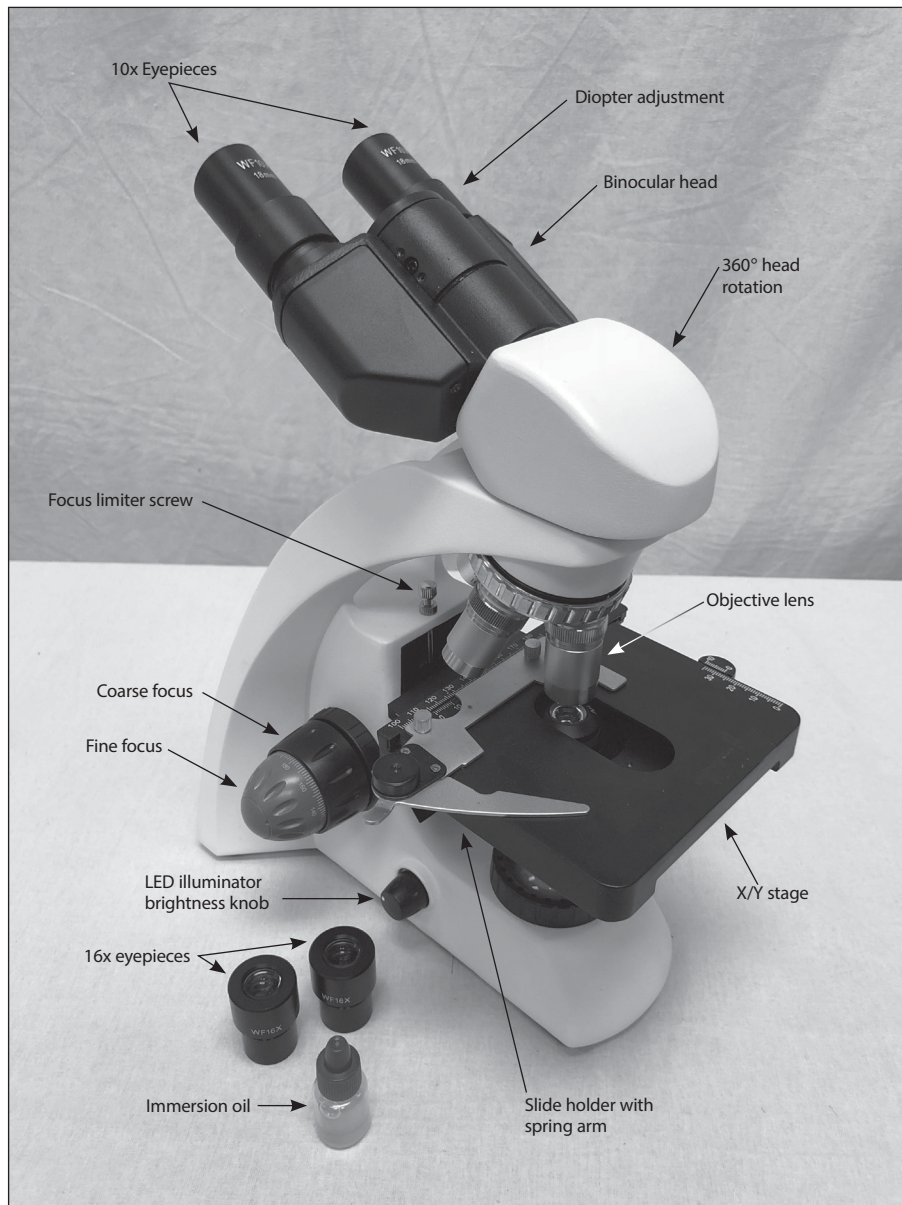

Figure 1. *The MicroXplore CM-1 Compound Biological Microscope*
3. Insert the set of eyepieces into the binocular holder (**Figure 1**).
4. Rotate the focus knob to lower the X/Y stage down away from the objective lenses (**Figure 1**). This will give you some extra room to insert a slide and change objective lenses.
8. Adjust the LED brightness knob (**Figure 1**) until full brightness is achieved.
There is also a diopter focuser adjustment (**Figure 1**) on the left eye of the binocular head, similar to the way a standard binocular adjusts the diopter setting (note that it is reversed from most binoculars — on the CM-1, the diopter is on the left, not the right). In case one of your eyes has a different prescription than the other, the diopter can be adjusted to correct this. To adjust the diopter:
Be aware of the position of the specimen slide when focusing. It is possible to focus the stage high enough where the glass slide comes into contact with the objective lens, possibly cracking the glass slide. The focus limiter screw (**Figure 1**) is designed to keep the slide from making contact with the longer objectives (40x and 100x). The limiter is set at the factory, but may require some adjustment depending on the thickness of the slides you may be using. To adjust, back off the limiter locking nut, and rotate the screw up or down to adjust the position where the stage will stop. Tighten the limiter locking nut to set in this new position.
- Place a specimen slide onto the X/Y stage by using the clamp lever to hold the slide firmly in place (**Figure 1**).
The illumination LED is controlled by the brightness switch on the side of the base (**Figure 1**). Adjust the knob until the desired light level is achieved.